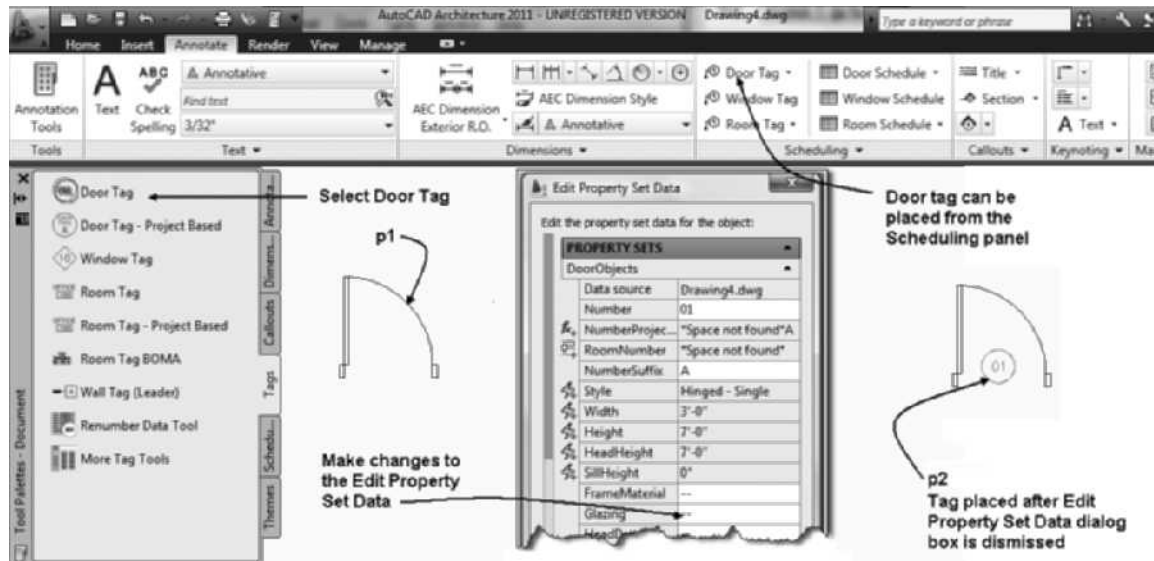

FIGURE 11.36 Door tag placed in the drawing
3. You are prompted to select an object to tag; select a door at **p1** as shown in Figure 11.36.
4. Specify the location of the tag near the door at **p2** as shown in Figure 11.36.
5. The **Edit Property Set Data** dialog box opens as shown in Figure 11.36; make the necessary changes.
A window tag is also located on the Tags tool palette or the Scheduling panel of the ribbon as shown in Figure 11.36. Choose the **More Tag Tools** of the Tags palette to